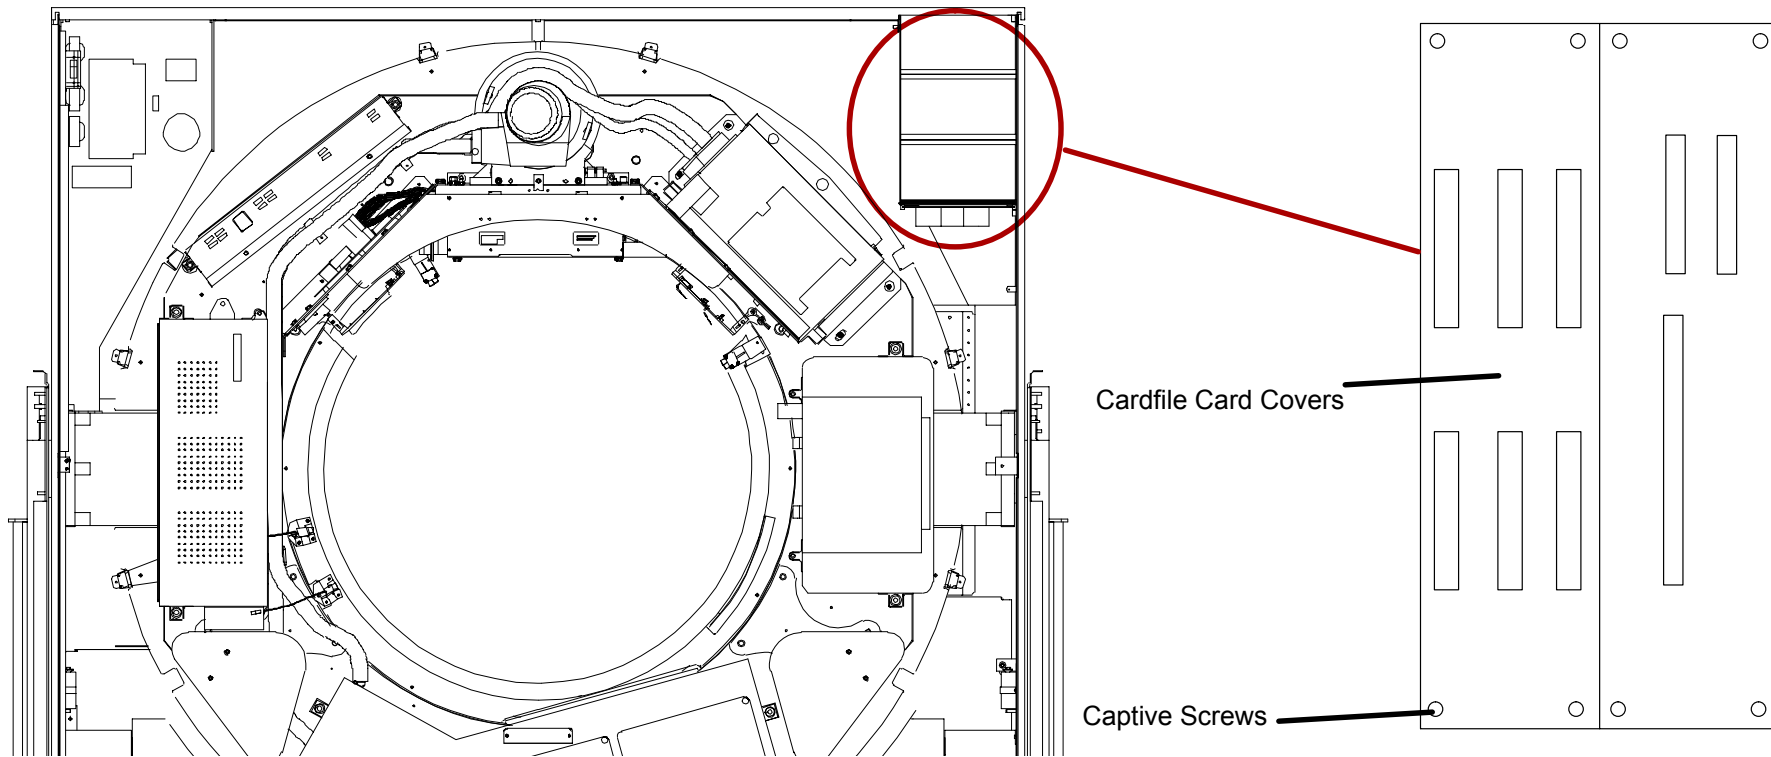

FIGURE 294 Cardfile Cover Removal
2. Remove the gantry cardfile covers by loosening the four captive screws on each cover. See Figure 294.